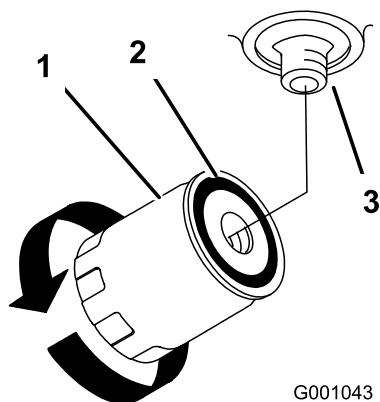

Figure 60
4. Remove the old filter, allow the oil to drain, and wipe the filter-adapter gasket surface clean (Figure 60).
7. Fill the hydraulic tank with hydraulic fluid until the fluid overflows the filter and then turn the oil filter clockwise until the rubber gasket contacts the filter adapter, then tighten the filter an additional 1/2 turn (Figure 60).